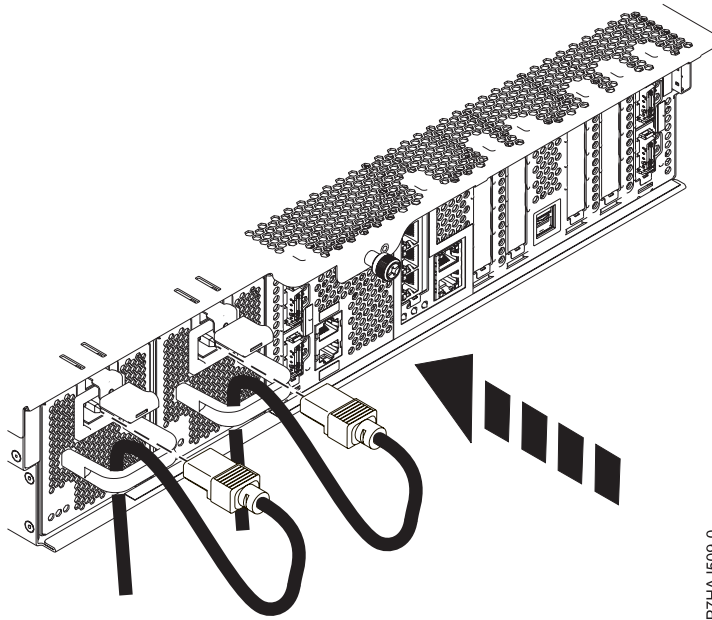

Figure 2. Routing the power cable
6. Route the power cable through the cable management bracket on the back of the power supply, as shown in Figure 2 on page 3.